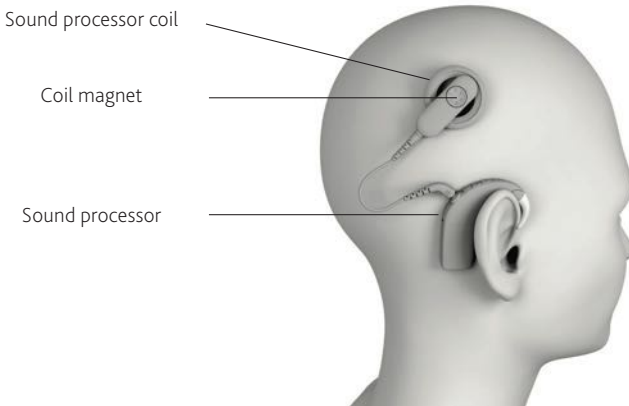

Figure 4: Location of the sound processor, sound processor coil and coil magnet
1. Prior to entering the MRI room and before removing the sound processor, mark on the patient's head an outline of the sound processor coil. See *Figure 4* below to identify the sound processor coil. Once the coil has been removed from the head, mark on the patient's head the centre position of the coil magnet. If necessary, shave the patient's head at the coil magnet location so this marking is more visible and easier to locate during the splinting process. This marking is essential to ensure that the splint is placed in the correct location.